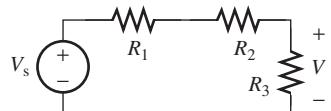

FIGURE P3.17 Circuit for Problem 3.17.
- 3.17 (A)** Find V_s given V in Figure P3.17.